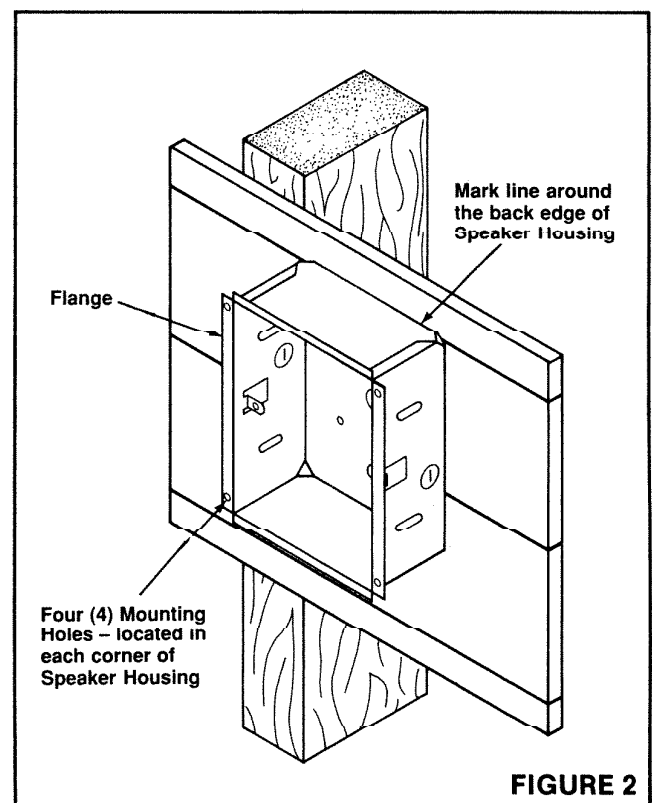

FIGURE 2
3. See Figure 2. Use the housing as a template for marking the required cutout. Place the housing against the wall at the desired location. Make a line around the back edge of the housing.
5. Insert housing into cutout. Use wood screws to secure housing to wall stud. **NOTE: In existing construction, use the four (4) mounting holes located in each corner of the speaker housing as illustrated in Figure 2.**
2. Use the housing as a template as illustrated in Figure 2. Place the housing against the wall at the required location.
4. Insert housing into cutout. Use wood screws to secure housing to wall stud. **NOTE: In existing construction, use the four (4) mounting holes located in each corner of the speaker housing as illustrated in Figure 2.**